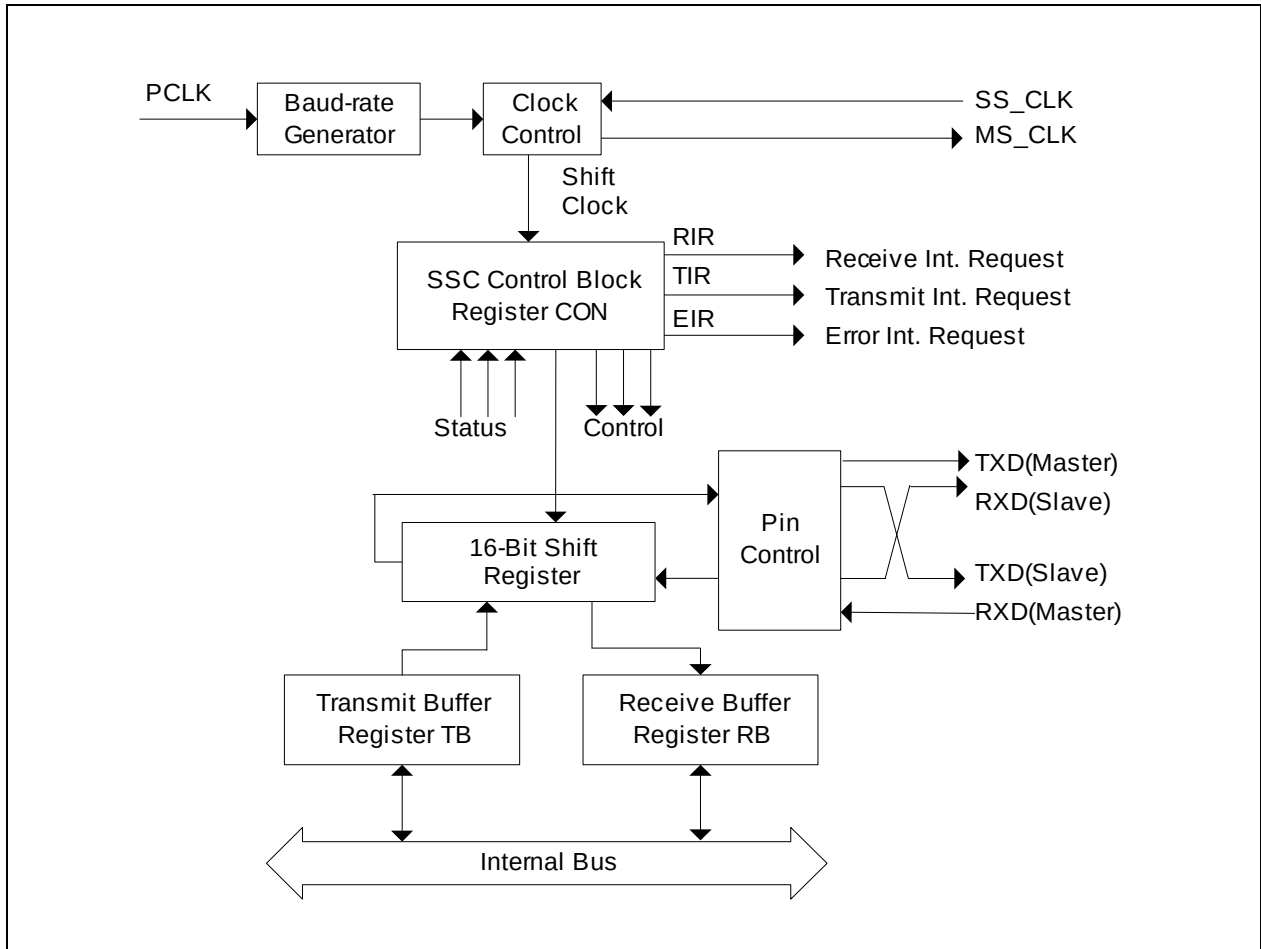

**Figure 31 SSC Block Diagram**
**Figure 31** shows the block diagram of the SSC.